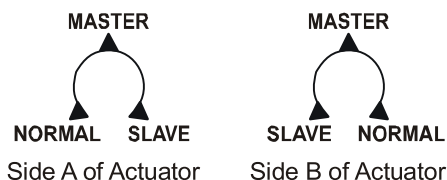

Figure 19: Tandem Selector Switch
3. Only one of the actuators can be configured as the master. Set the selector switch to the master position (Figure 19).
Each slave actuator must have its tandem selector switch (Figure 19) set on the slave setting. Its gray command wire must be connected the master's orange feedback wire.